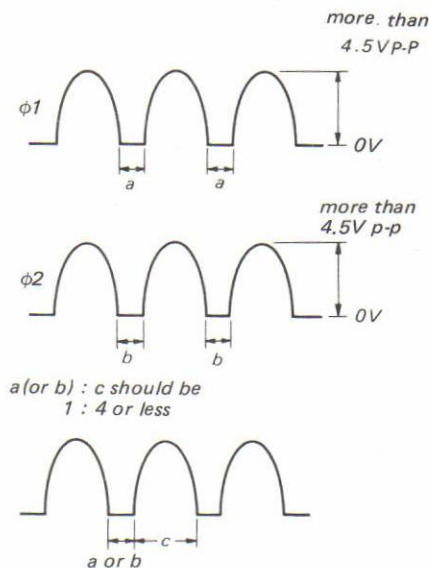

Fig. 38
4. The waveforms should be those as shown in Fig. 38 below.